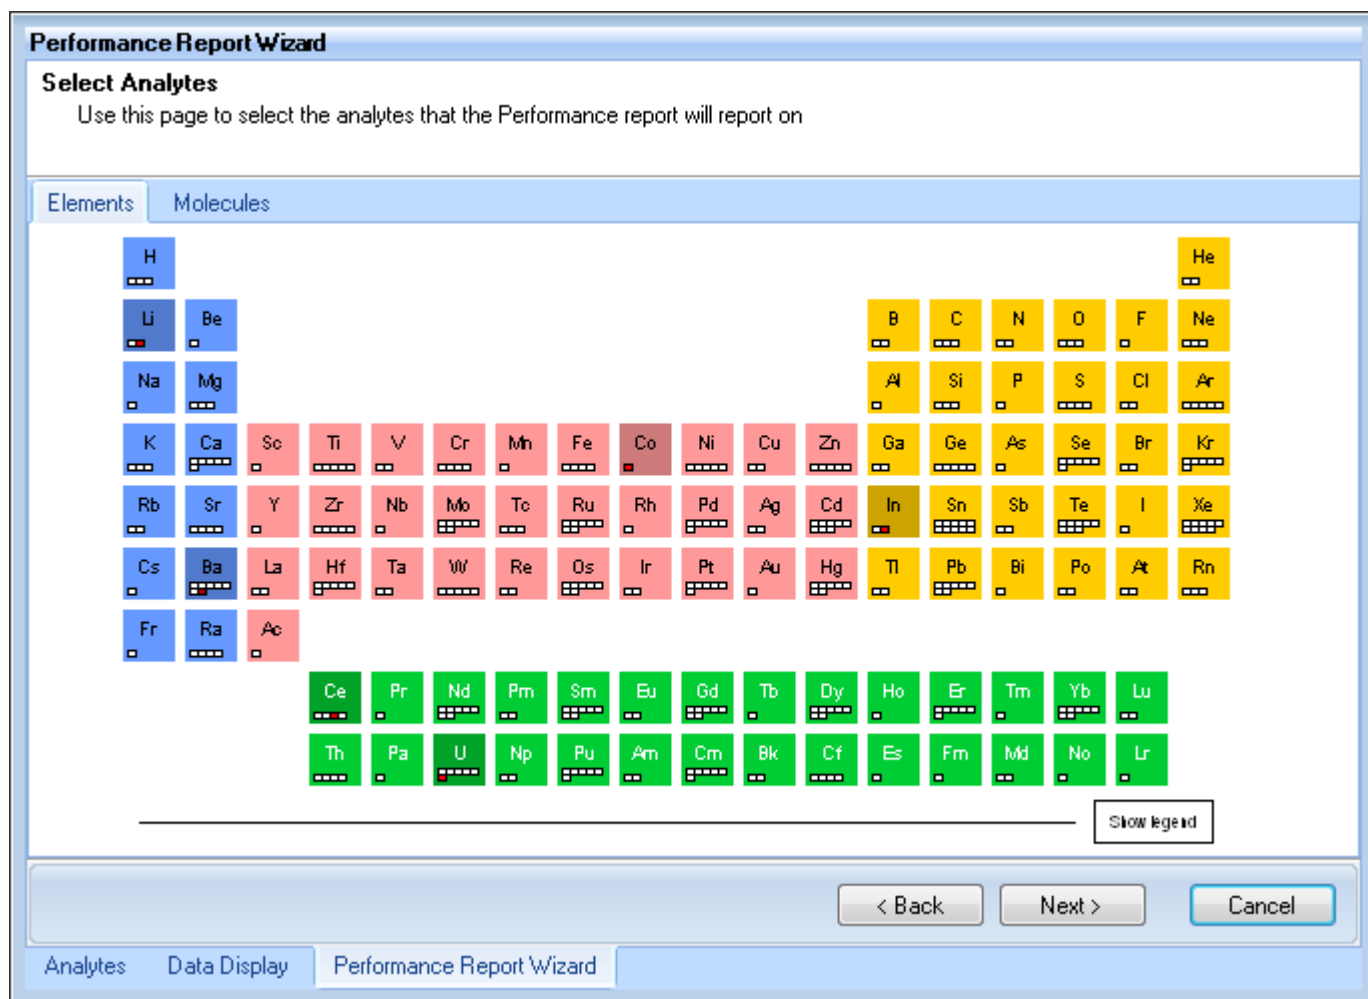

Figure 4-30. Selecting analytes for the Performance Report Wizard
6. In the tab **Elements**, select the analytes for the Performance report, see Figure 4-30.